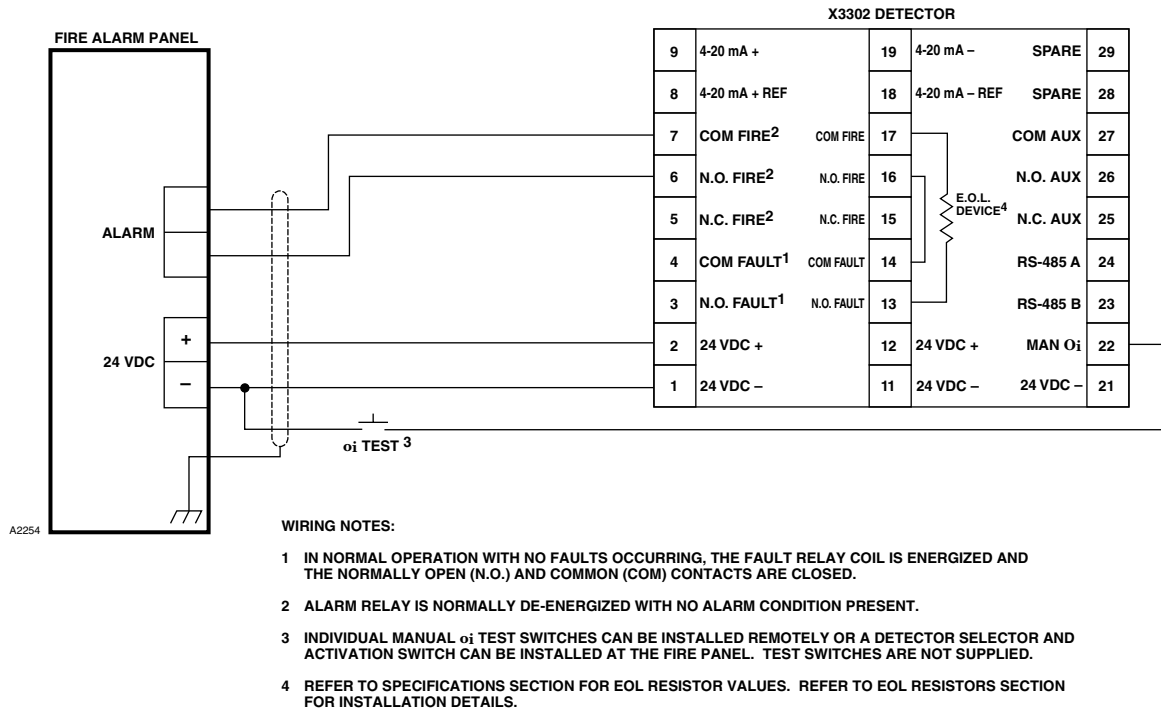

Figure 7—EEx d Wiring Option
The use of shielded cable is required to protect against interference caused by EMI and RFI. When using cables with shields, terminate the shields as shown in Figures 7 through 12, and Figure 14. Consult the factory if not using shielded cable.
- Figures 7 and 8 provide examples of typical installations with a X3302 wired to a fire alarm panel.